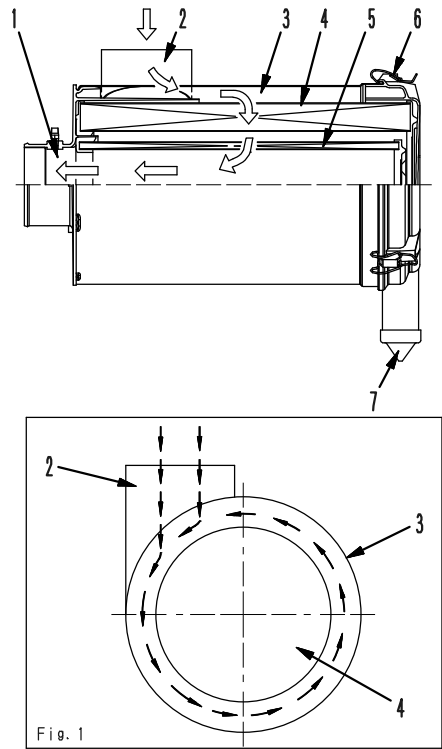

Fig. 1
- To remove the cleaner element of the current air cleaner, the wing nut must be removed. The cleaner element of this air cleaner can be removed, however, by just undoing latch (6).
- The inlet is installed off the center of the air cleaner so that air will swirl and separate dust with centrifugal force as shown in Fig. 1.